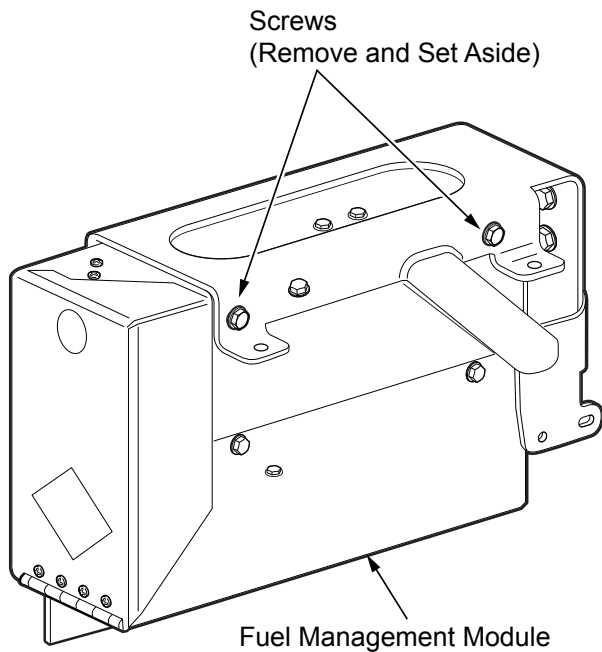

Figure 1
1. Locate the fuel management module (FMM) (see *Figure 1*).
3. Remove the 2 mounting screws and set aside for reinstallation (see *Figure 1*).